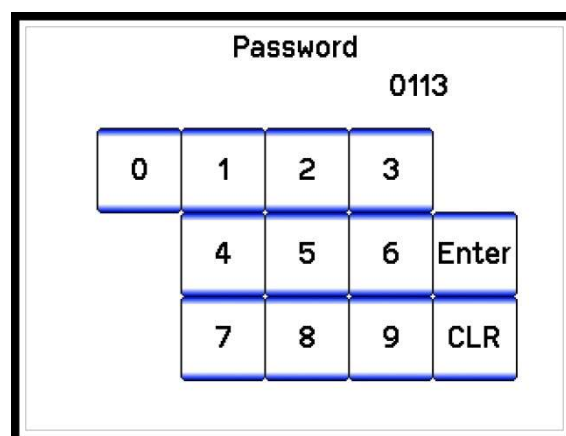

Figure 21
- Confirm Selection & enter **Random Generated Password** from factory (Figure 21)